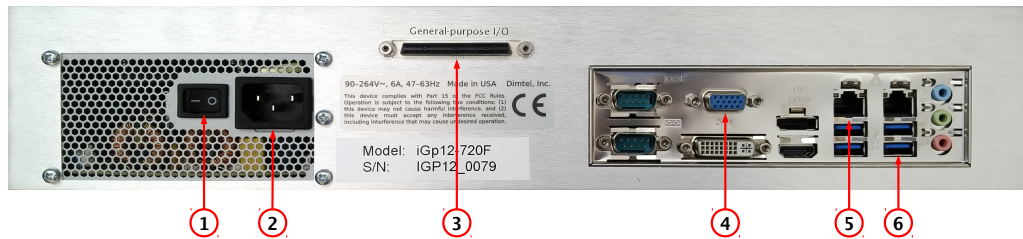

Figure 4: Rear panel features
6. Connect a USB keyboard (Fig. 4, item 4);
7. Connect a video monitor (Fig. 4, item 5);
Setup program is included in the IOC for configuring the important features of the iGp12-470F. The program can be executed locally or remotely. For local execution one must first connect a keyboard (Fig. 4, item 4) and a video monitor (Fig. 4, item 5) to the system. For remote setup, use `ssh` after system bootup to establish connection. In both setup methods the user must login as `root` (initial password is supplied with the system). If the newly received iGp12-470F must be configured remotely (when, for example, a keyboard or a monitor is not available), such configuration can be performed using a